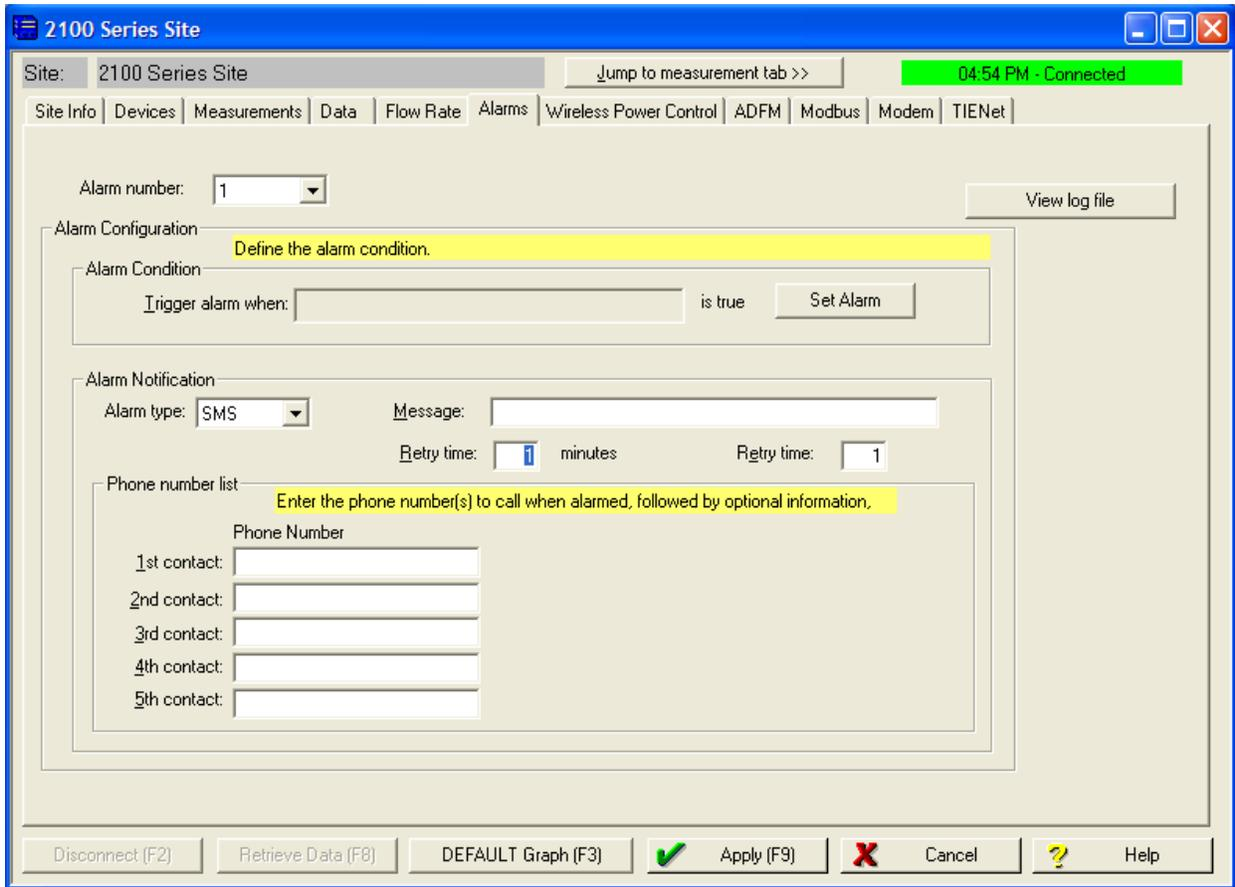

Figure 2-16 Setting up text messaging and alarm conditions
1. Make sure you are connected to the site, and select the Alarms tab (Figure 2-16).